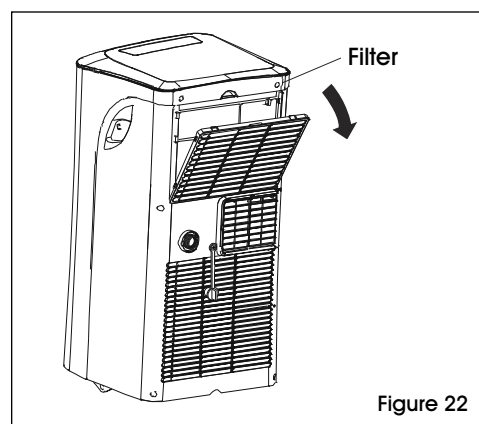

Figure 22
- This unit has one filter. Grasp the upper panel tab and remove the filter behind the grille of the back panel. (See Figure 22)